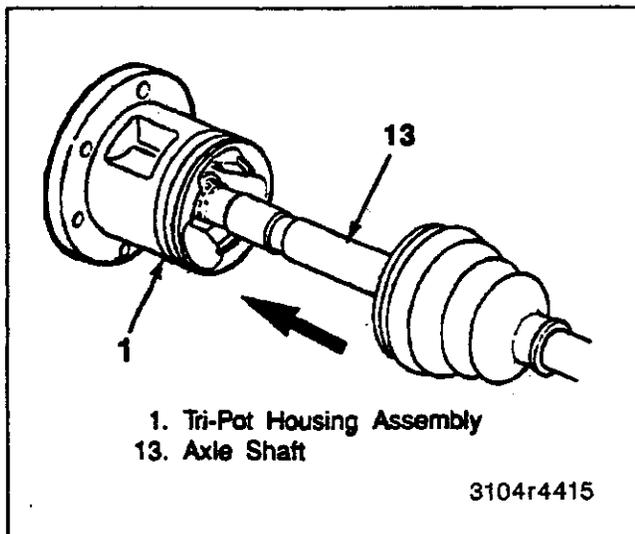
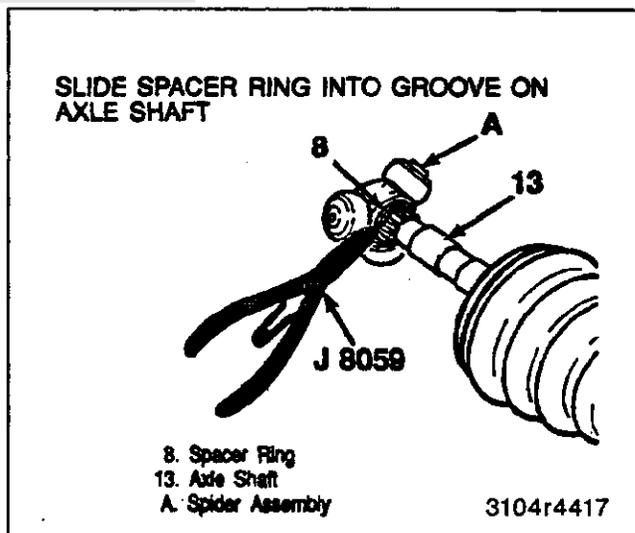
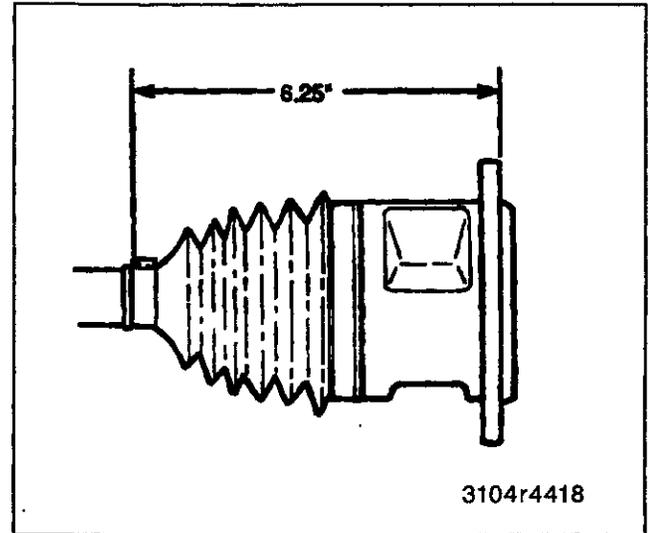

Figure 20—Installing Tripot to Housing
Figure 22—Installing Spider Assembly
Figure 23—Tripot Seal Installation Measurements
3. Spacer ring (8) on the front axle shaft (13) and beyond the second groove as shown in figure 22.
- Slide the tripot spider assembly against the spacer ring (8) and the shaft (13).
- Be sure that the counterbored face of the tripot spider (3) faces the end of the shaft (13).
4. Shaft retaining ring (2) in the groove of the axle shaft (13) with J 8059.
5. Slide the tripot spider (3) towards the end of the shaft (13) and reseat the spacer ring (8) in the groove on the axle (figure 22).
- A. Place approximately half of the grease provided in the seal (10) and use the remainder to repack the tripot housing (1).
6. Pinch the swage ring (9) by hand slightly to distort it into an oval shape and slide it onto the large diameter of the seal (12).
7. Slide the tripot housing (1) over the tripot spider assembly on the shaft (13) (figure 20).
8. Slide the large diameter of the seal (10) with the large swage ring (9) in place over the outside of the tripot housing (1) and locate the seal lip in the housing groove.
9. Position the tripot assembly at the proper vehicle dimension as shown in figure 23.